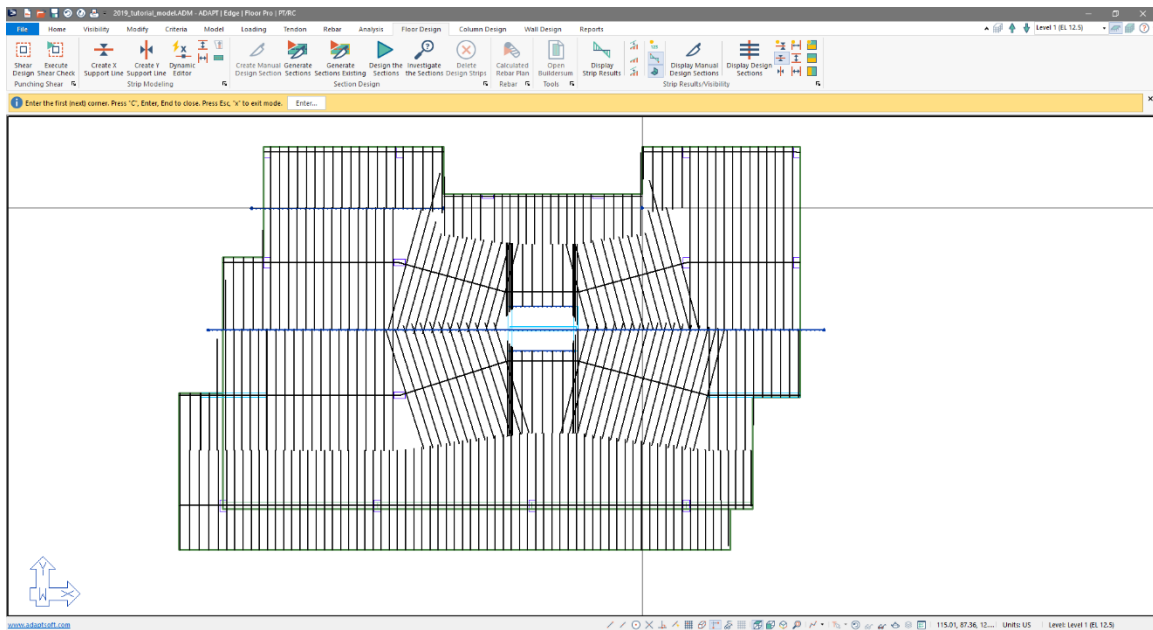

Figure 9-28
- Hover your mouse midway between support line 3 and support line 6, just under the re-entrant corner as shown in **FIGURE 9-28**.